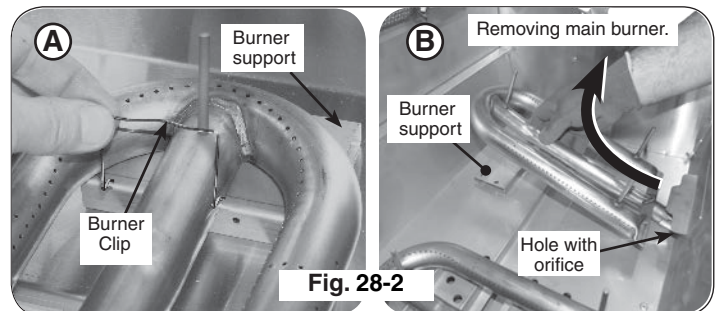

Fig. 28-2
2. Locate the burner. Slightly pinch and remove the burner clip (located over the rear center of the burner) from the burner support and set aside (see Fig. 28-2, A).
3. Carefully lift the burner from the burner support and out from the hole in the forward fire wall (see Fig. 28-2, B).
4. Use a 1/4" hex deep socket nut driver to remove the exposed orifice. Access it through the hole in the forward firebox plate inside the grill (Fig. 28-2). Check orifice. If needed, replace it with the correct orifice for the new gas.